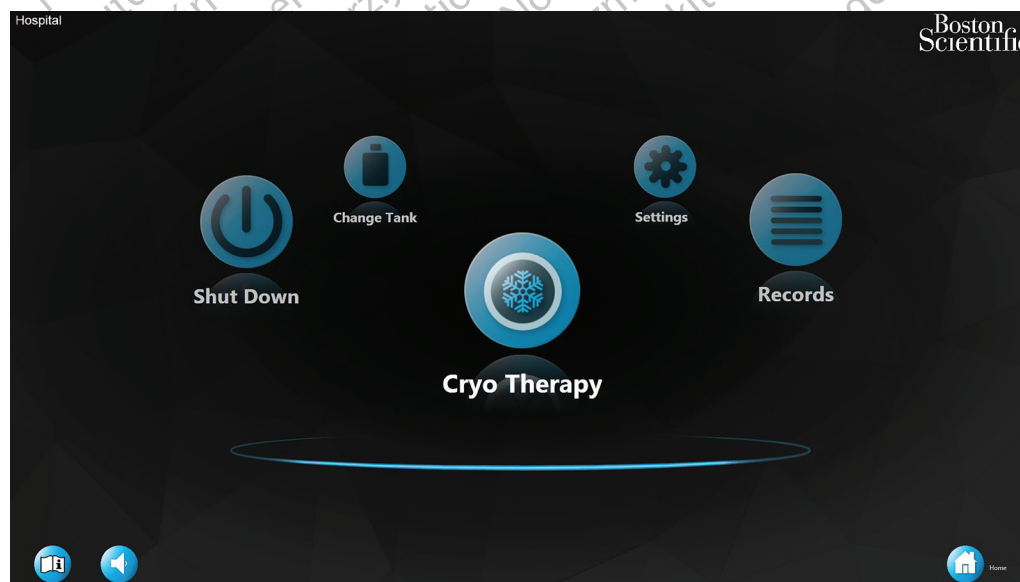

Figure 2. Home screen
4. The home screen will be displayed once the SMARTFREEZE Console has completed the boot-up procedure (Figure 2).